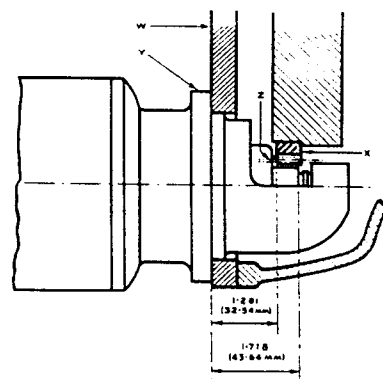

FIG. 9
On certain of the earlier tractors, full engagement between starter ring (X) and pinion (Z) may be slightly greater or less than the amount shown in Fig. 9.